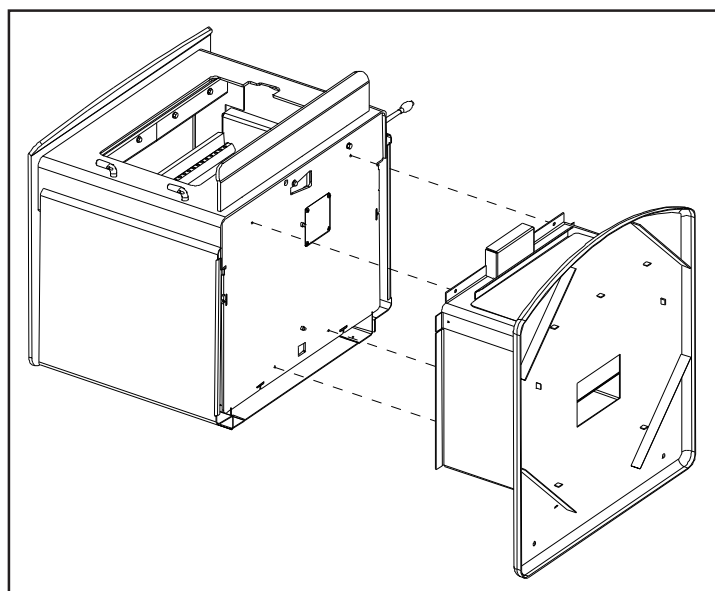

**Figure 15:** Bolts to remove.
- Remove the two (2) carriage bolts (shown in Figure 15) that secure the unit to the pallet from inside the firebox.
**Note:** After the pedestal or legs and ash pan have been installed but before the bricks are installed, rivets (Figure 14) must be placed in the two (2) holes (shown in Figure 15) in the firebox that carriage bolts came out of. This is done to make unit burn more efficiently. The shoulder rivets are found in the manual bag.